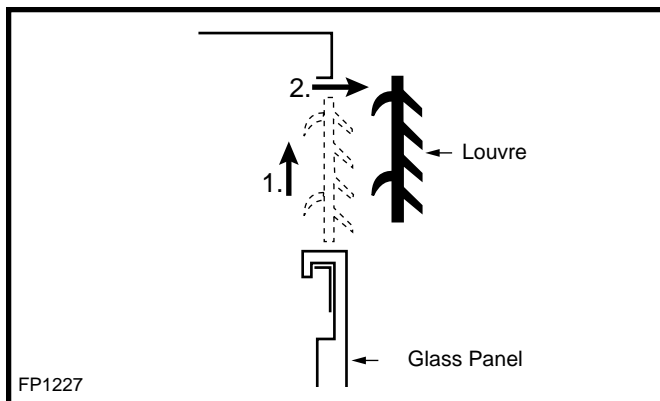

Fig. 36 Remove louvre assembly top.
- The top side and top end louvres are removed by simply lifting the louvre assembly and pulling the assembly away from the fireplace. (Fig. 36)